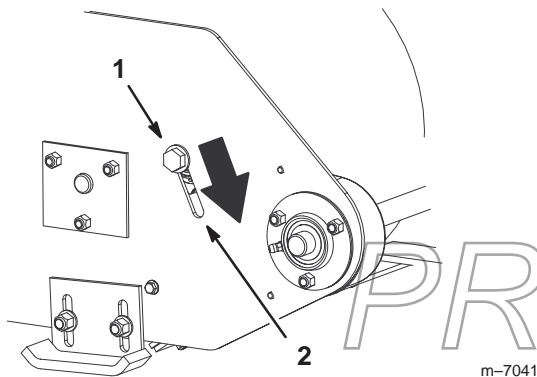

Figure 34
- Loosen the bolt that secures the idler sprocket to the left side of the housing. (fig. 34).
- Slide the idler sprocket in the adjustment slot until the chain is snug, but not tight (Fig. 34).